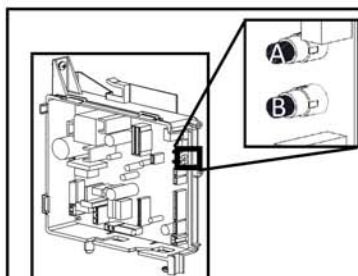

Figure 6: A and B Buttons
- Locate the two buttons (A and B) on the PC board (Figure 6).
- Press the **A** button for 1 second. **07A** appears on the controller display (Figure 6).